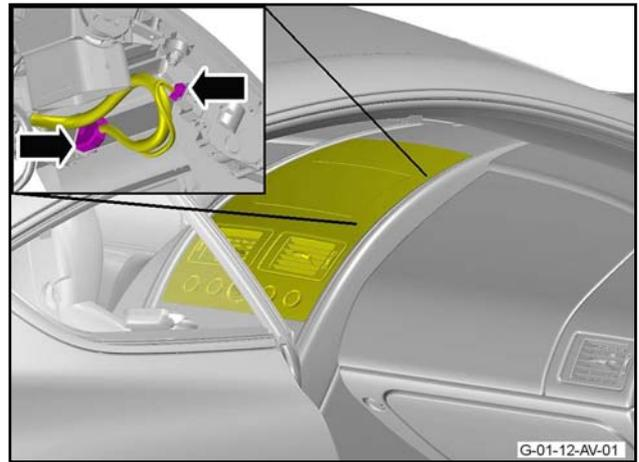

Figure 15
- 18. Connect the two electrical connectors to the navigation display screen (refer to Figure 15).